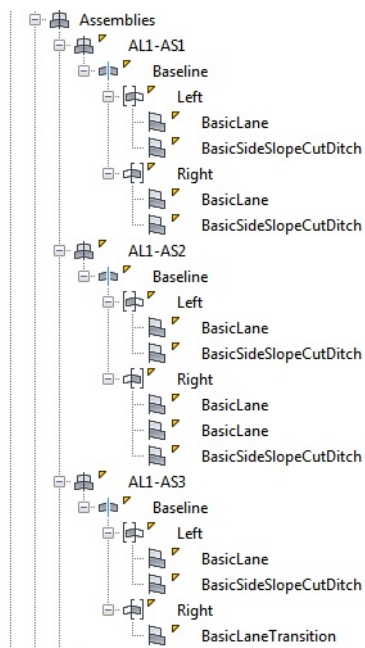

Fig. 1. Definition of AL1-AS1, AS2 and AS3 from PROSPECTOR.
1. Create three new assemblies as they are defined in fig. 1 and 2.